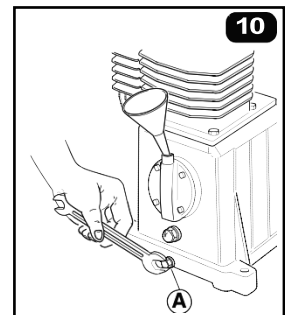

Fig. 10
In order to change the oil, remove the dipstick/plug and unscrew the screw (A) (Fig.10), then collect the oil into a container. The oil change should be done when the compressor is hot so the oil sump drains rapidly and completely. Once drained, replace the screw (A) in its housing and refill with fresh oil up to the max. level (for proper quantity, see the oil table enclosed to the instructions book).